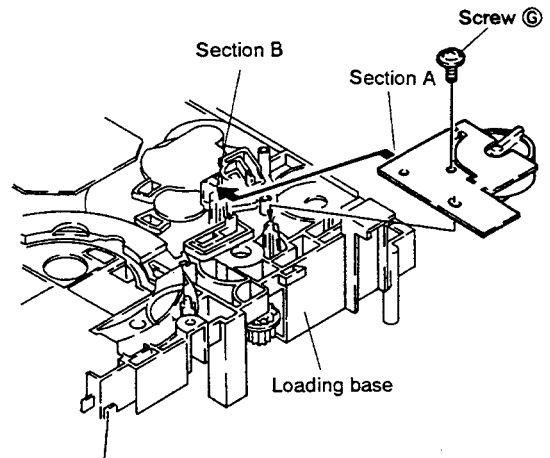

Fig. 2-10
- (3) As shown in Fig. 2-10, after turning over the loading base, insert section A into the section B as the arrow shows, and fix with the screw ⑥.